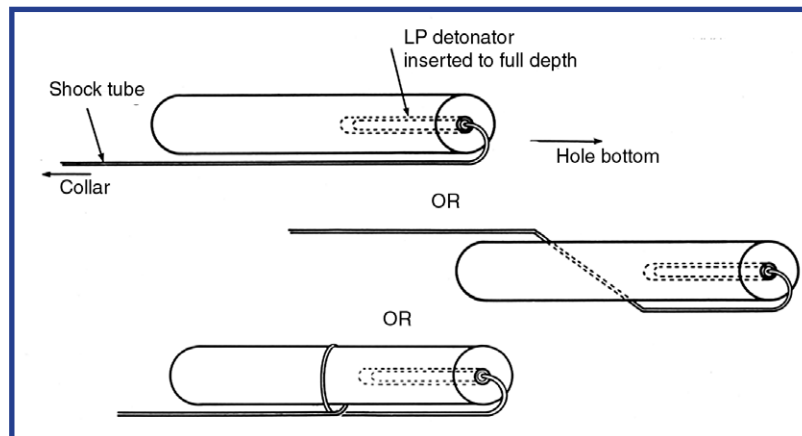

Figure 27 - Methods to insert LP detonator into explosive cartridge.
3. Place the primer assembly in the hole so the end of the detonator points toward the collar of the hole. DO NOT directly tamp on the primer assembly (Figure 27).